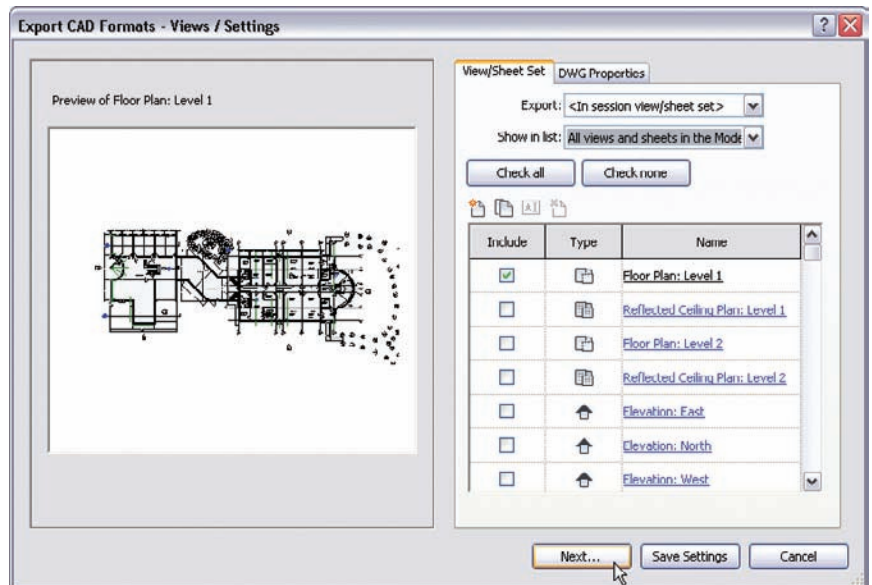

FIGURE 20.26 Choosing the items to export
5. Scroll down to the bottom of the list and make sure your Level 1 floor plan is checked on (see Figure 20.26). You may check on any others as you please.